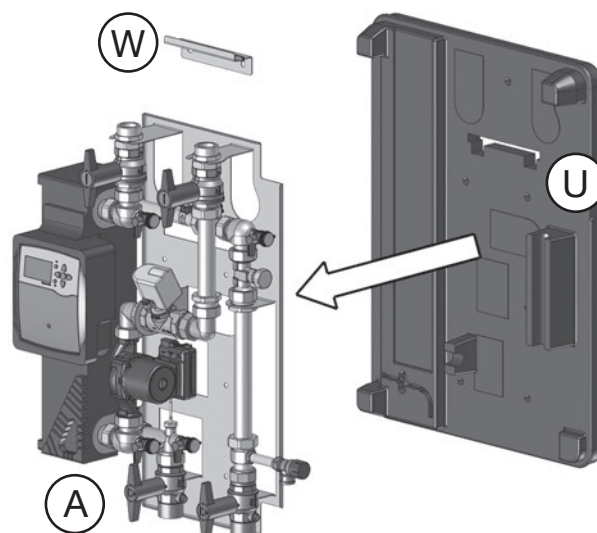

Fig. 4.1: Remove the product assembly from the rear insulation shell
3. Remove the product assembly (A) from the rear insulation shell (U) (Fig. 4.1).